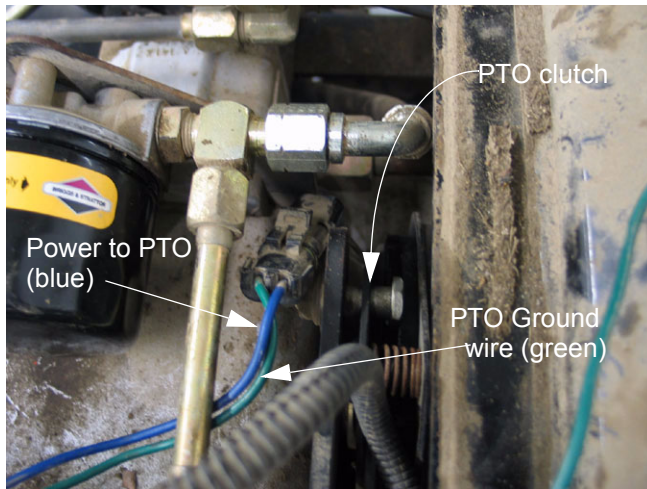

Figure 3.2
- 3.2. The Electric PTO clutch on Series 5000 compact tractors is external, but requires some transaxle disassembly to remove. See Figure 3.2.